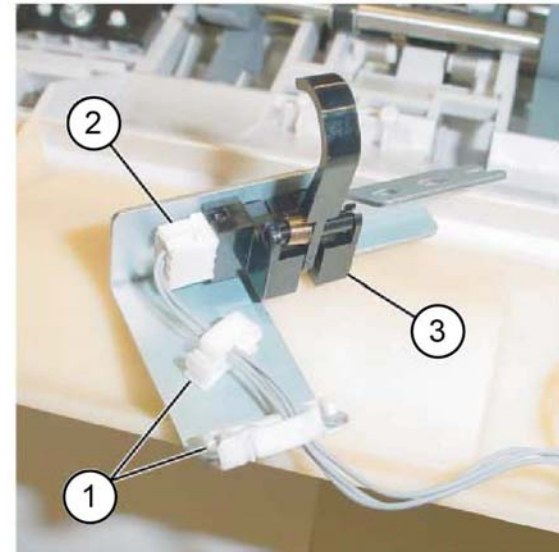

Figure 4 Compiler exit sensor removal
7. Remove the compiler exit sensor, Figure 4:
- a. Release the harness from the two clamps (1).
- b. Disconnect the connector (2).
- c. Remove the compiler exit sensor (3).